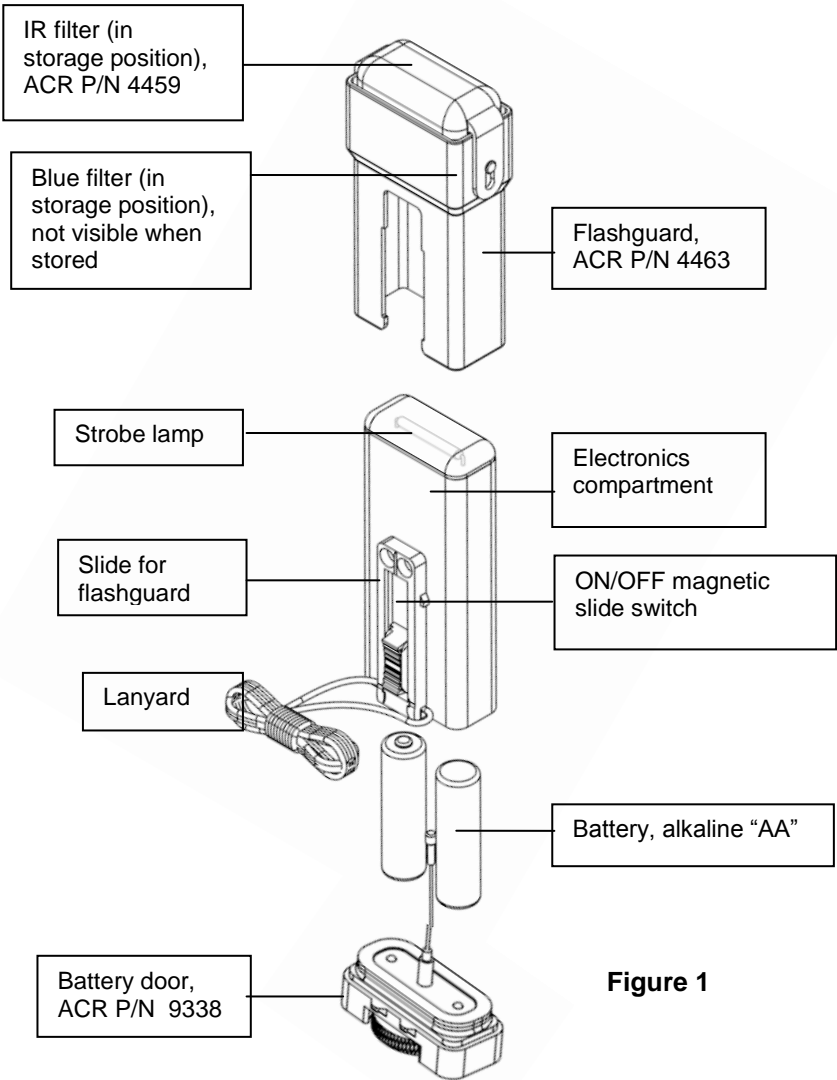

Figure 1
7. Replacement Parts List (See Figure 1 for additional details)